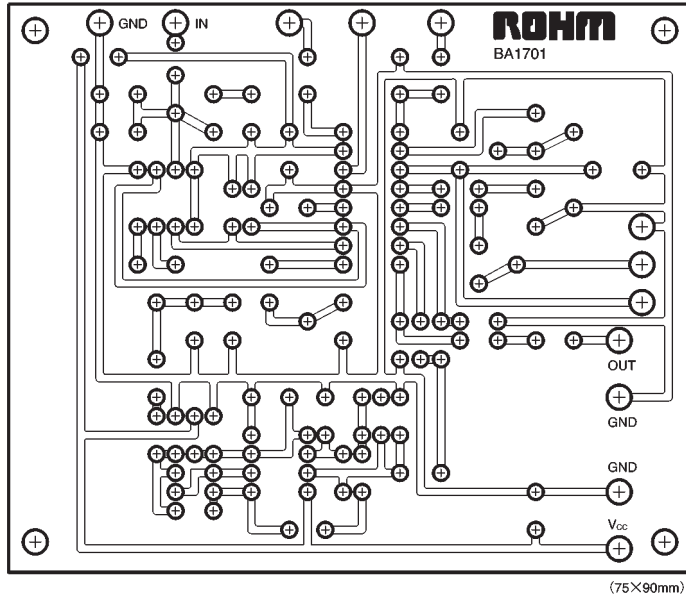

Fig. 6
- (1) Use accurate film capacitors for the VCO time constant capacitor C_{14} ($0.22\mu\text{F}$), the RAMP time constant capacitor C_{17} ($1\mu\text{F}$), and the BBD clock time constant capacitor ($0.0047\mu\text{F}$).
- (2) If the AF output pin (pin 8) has a capacitive load, you must take precautions to ensure that the BA1701 AF amplifier does not oscillate. We recommend that you insert R_{19} (about $10\text{k}\Omega$) in the signal output line.
- (3) To prevent oscillation, position the earth point of the BBD clock time constant pin (pin 9) close to the GND pin (pin 13) (see Fig. 6).